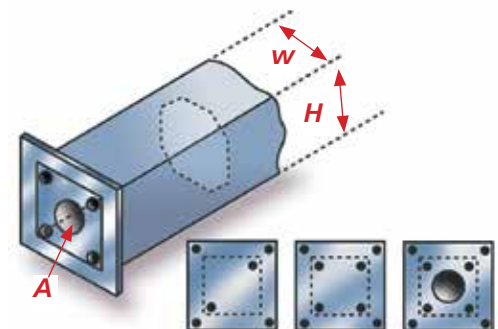

Figure 6
- If $H+W =$ less than 8", leave it open *See Figure 6 on page 10.*